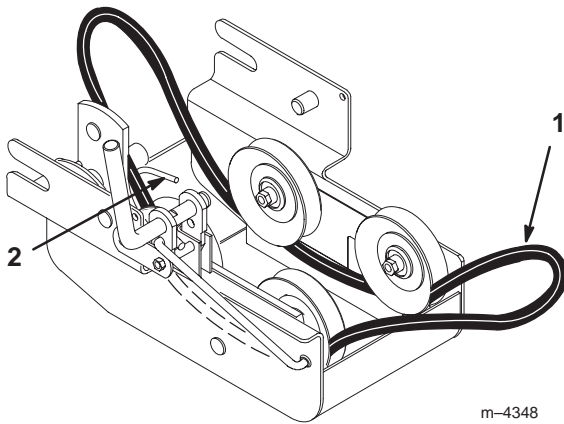

Figure 5
1. Route the belt under the four (4) pulleys and inside the belt guide in the pulley box (Fig. 5).